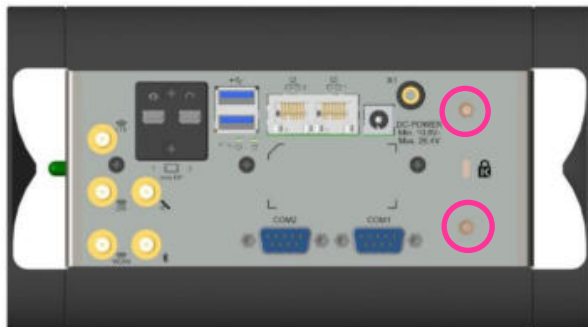

Fig. 7: Universal holder position
- Mount the universal holder with the two provided screws at the intended fastening points (see Fig. 7).